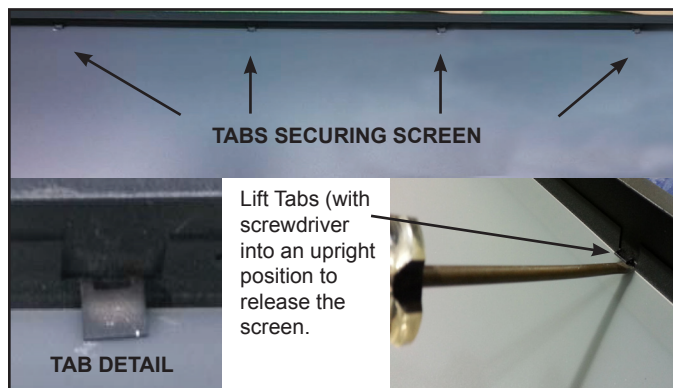

Figure 6 Side Bracket Removal
8. Using a flat screwdriver, lift tabs into an upright position to release the screen. See Figure 6.